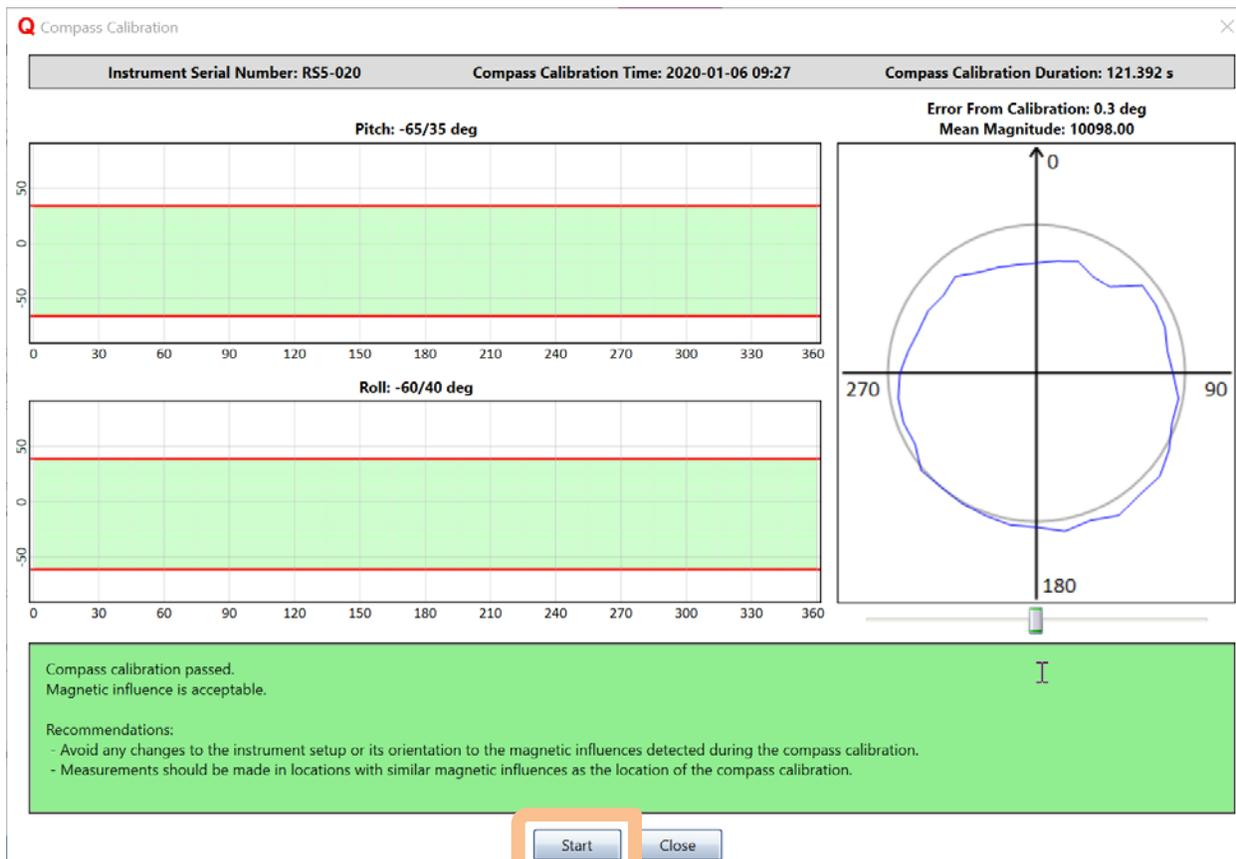
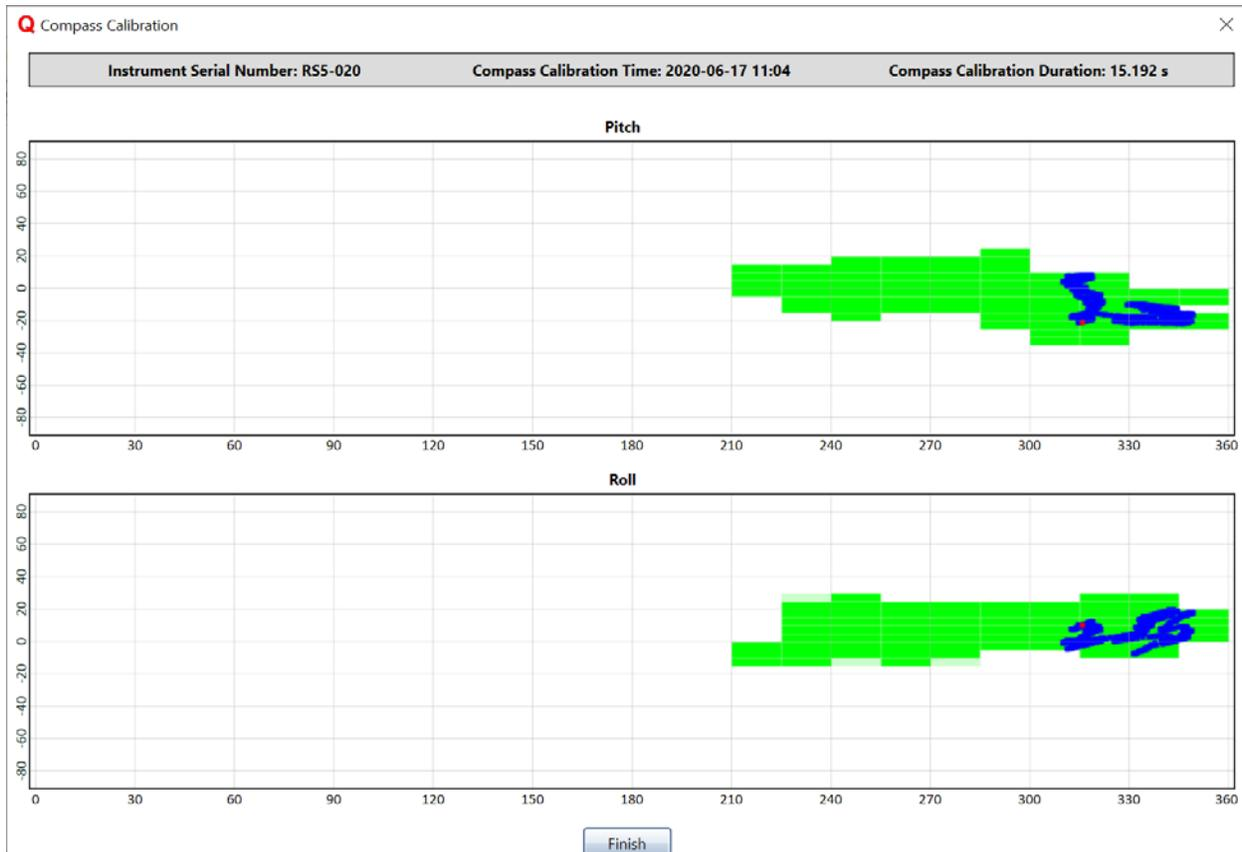
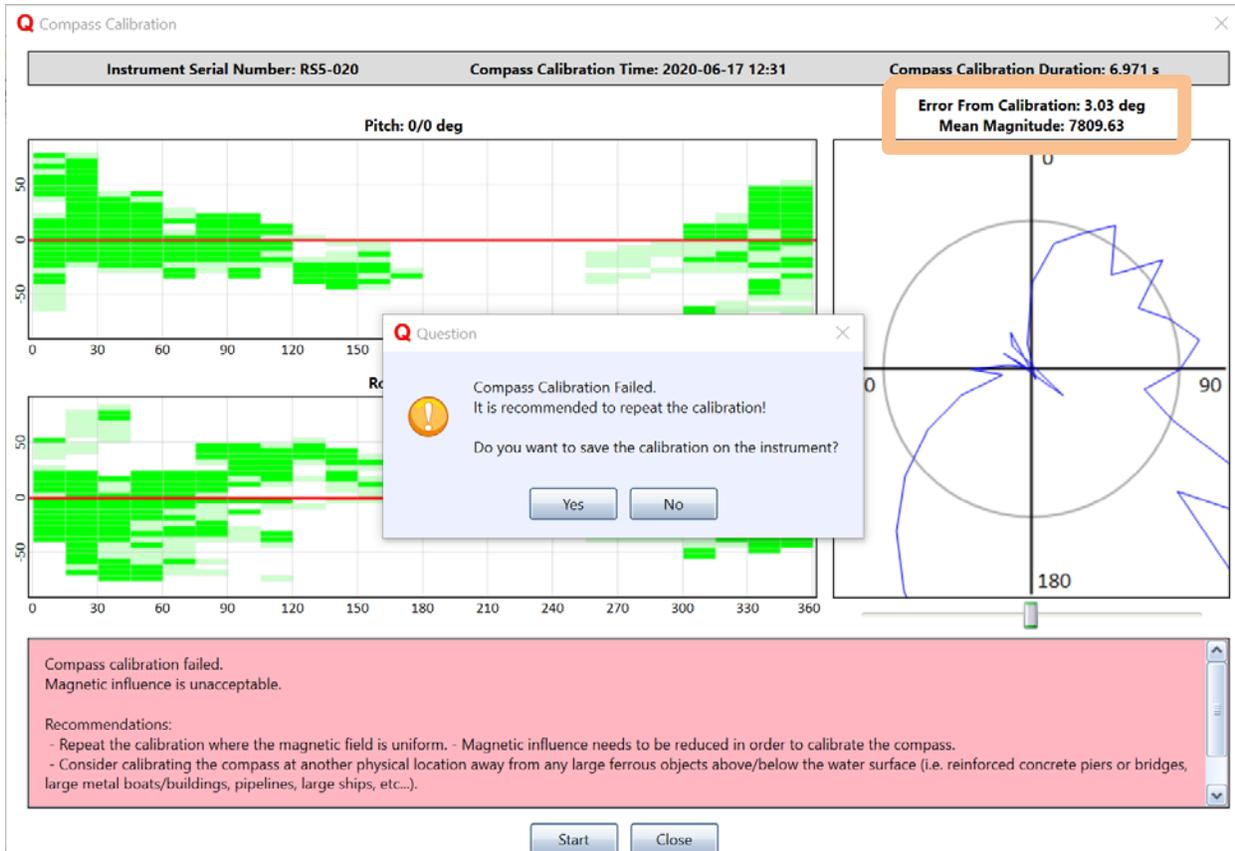

Figure 53. Compass Calibration Dialog
Figure 54. Compass Calibration Procedure
Figure 55. Compass Calibration Fail
To begin a Compass Calibration, click the View/Calibrate link (highlighted in Figure 52) in the Compass Calibration section of the Smart Page. The Compass Calibration dialog will appear (Figure 53). The results from the last good calibration will be displayed.
4. To begin a Compass Calibration, press the Start button, highlighted in Figure 53. Once the calibration begins, the dialog will provide real-time feedback on the heading (x-axis), pitch, and roll, shown in Figure 54.
7. Once finished, the calibration results will be displayed. Figure 53 shows an example of a passed compass calibration, whereas Figure 55 shows an example of a failed compass calibration. If failed, the user has the option to choose to save the calibration to the system. Under normal circumstances, it is best to avoid saving a failed calibration to the system and to restart the calibration. Compass calibration failures can be caused by a variety of factors, and the following two parameters (both highlighted in Figure 55) can be used to diagnose the failure: